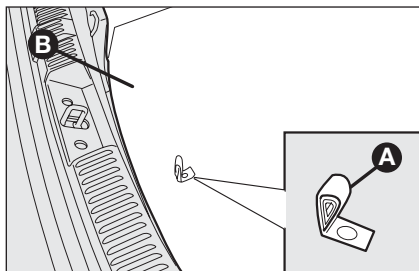
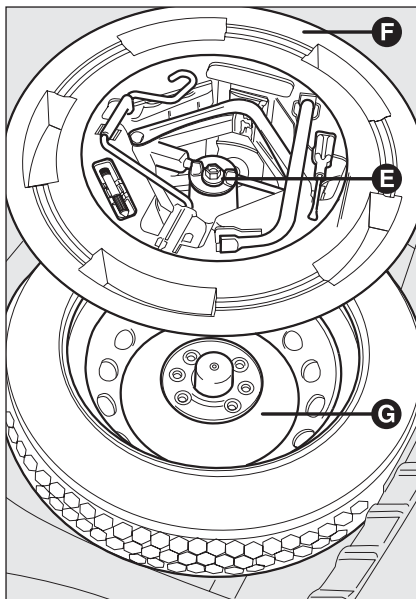

fig. 2
fig. 3
- use the handle **A-fig. 2** to remove the piece of stiff cover **B**; loosen the clamping device **E-fig. 3**;
- for versions with small spare wheel, unscrew the retaining device **E-fig. 3**, take the tool kit **F**, place near to the wheel to be replaced and then take the small spare wheel **G**;